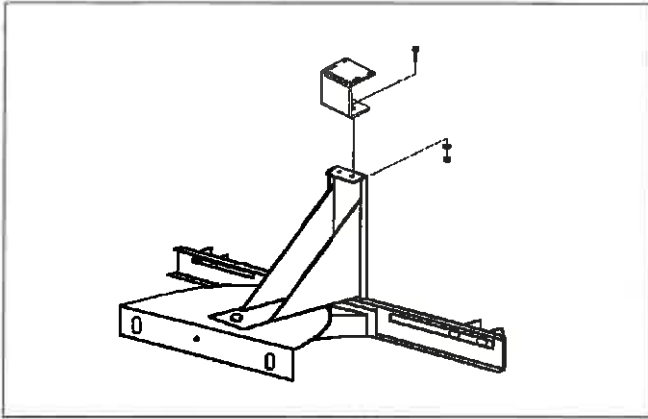

figure 10
7. If not installed, attach the check valve bracket to the top of the quick attach mounting (figure 10). Use 2, 3/8-16 x 1 1/4 in. cap screws, lock washers and nuts.